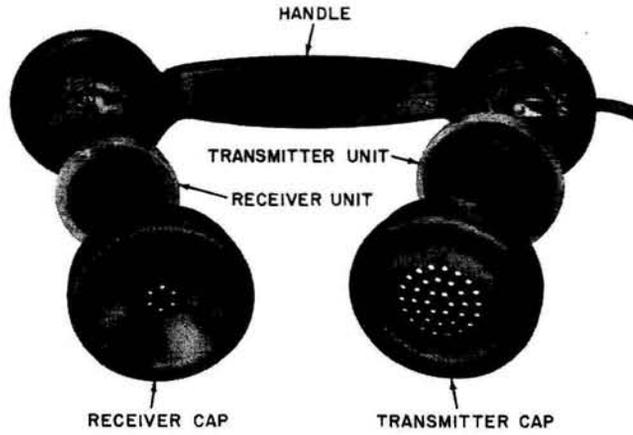

Fig. 2 — F-Type Handset
**3.01** Assemblies of the F-type handsets are shown in Fig. 2 and 3. For types and uses of these handsets, see Tables B and C.